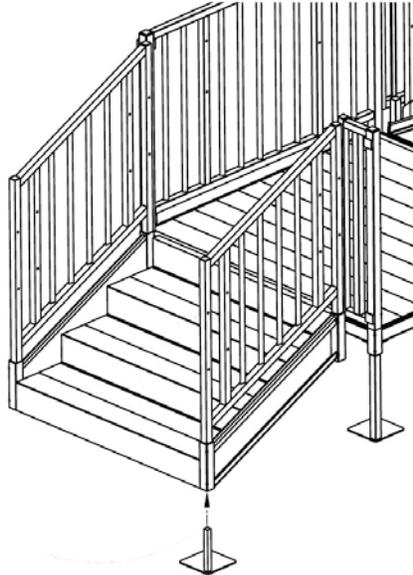

FIG. 8
- 3.4.1 Install the leveling foot into the bottom of the step guard post with the foot positioned so that it extends under the riser and sits on the ground (FIG. 8). This may require lifting the riser and realigning corner pocket as described in step 3.1.